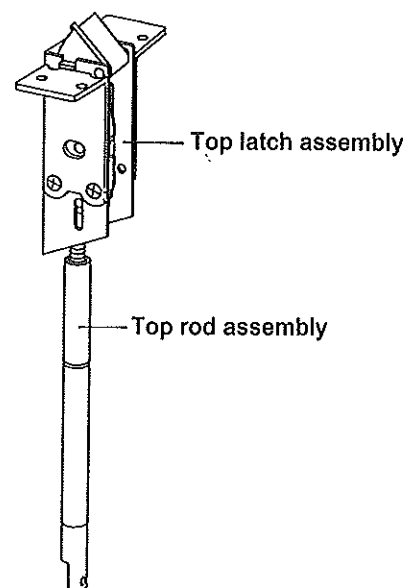

Figure 2-4
3. Screw top rod assembly into top latch assembly. (See Figure 2-4.)